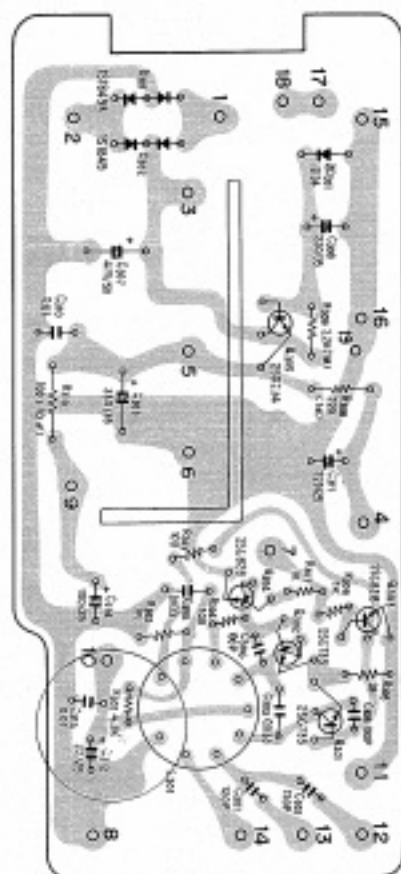

Fig. 21
*This adjustment is performed with the tape bias current cut-off. By opening the solder connection in the copper foil (shown * in Fig. 21), power is not supplied to the oscillator circuit, thus interrupting the bias current.